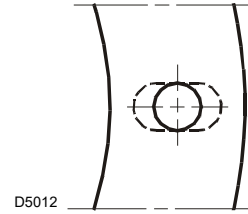

Fig. 10
- if necessary, widen the insulating gasket holes (Fig. 10), taking care not to damage them.